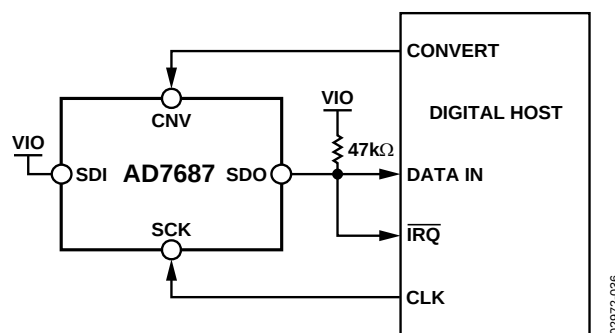
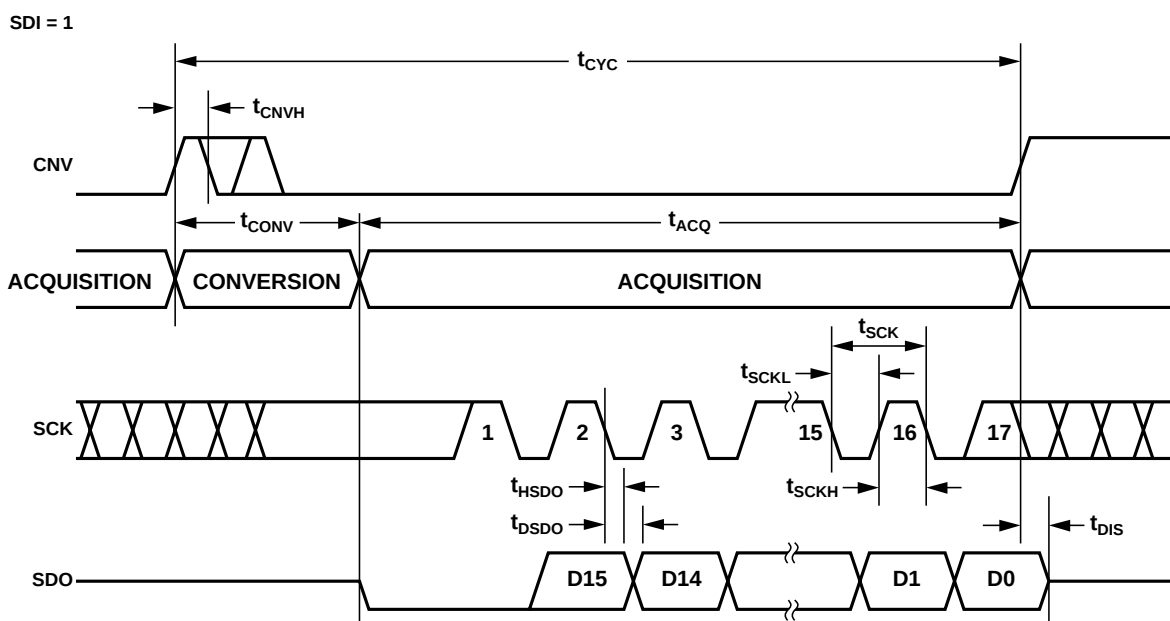

Figure 37. $\overline{\text{CS}}$ Mode 3-Wire with BUSY Indicator Connection Diagram (SDI High)
Figure 38. $\overline{\text{CS}}$ Mode 3-Wire with BUSY Indicator Serial Interface Timing (SDI High)
- In the $\overline{CS}$ mode, if CNV or SDI is low when the ADC conversion ends (Figure 38 and Figure 42).
The connection diagram is shown in Figure 37 and the corresponding timing is given in Figure 38.